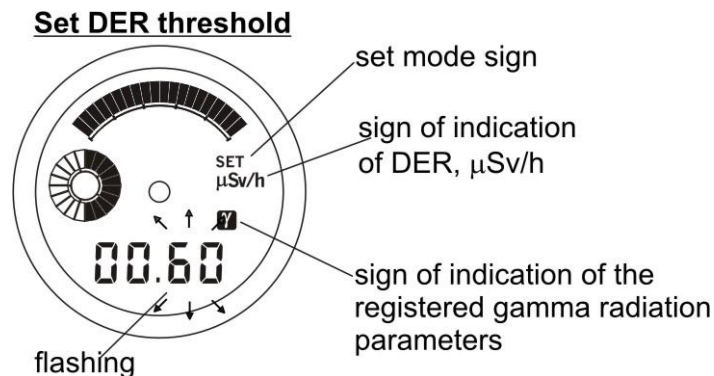

Fig 3.10
3.2.8.3 To set DER threshold switch on DER indication mode according to clause 3.2.2. The long pressing of button 2 (SELECT) switches on the indication of the preset DER threshold on LCD; the two least significant digits (tenths and hundredths of  $\mu\text{Sv/h}$ ) will be flashing, the set mode sign **SET** will appear and the filled in linear analogue scale will be indicated (Fig. 3.10).